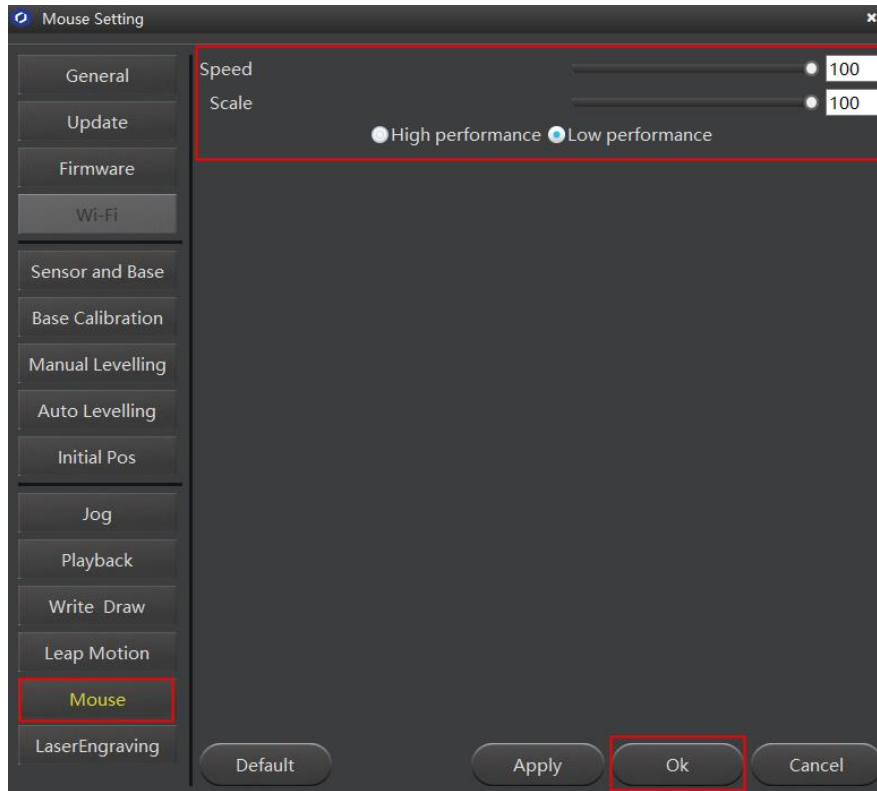

Figure 5.101 Set the parameters of mouse control
Step 3 Click **Setting > Mouse**, as shown in Figure 5.101. Set the parameters. For details about the parameters, please see Table 5.14.